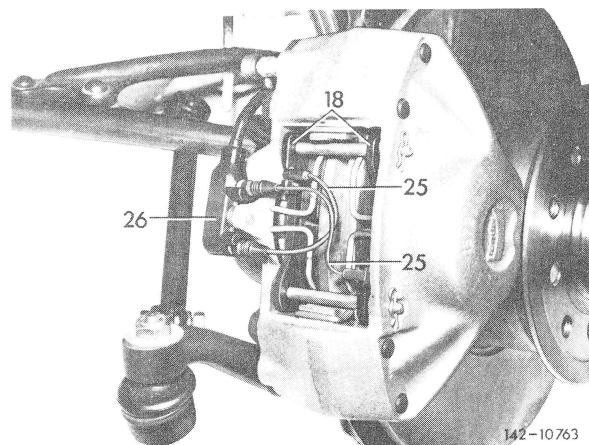

Fig. 3
2 On vehicles with brake lining wear indicator, pull cables of clip sensors (25) out of plug connection (26) on caliper (Fig. 3).
17 On vehicles with brake lining wear indicator, connect cables of clip sensors (25) to plug connection (26) of caliper (Fig. 3).